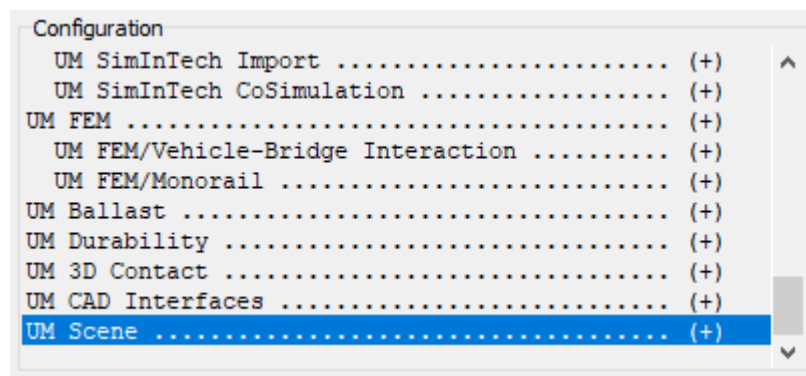

Figure 1.1. UM Scene in the UM configuration
- **Make sure that you have a license for UM Scene in your UM configuration.** Every module in UM software is licensed separately. To load scenes a UM user needs the **UM Scene** module to be available. To check if you have the **UM Scene** module run **UM Simulation** program then from the main menu select the **Help | About** item and make sure that you have '+' sign for **UM Scene**, see Figure 1.1. If you use a trial UM license, your UM configuration already includes **UM Scene**. If you are a registered user you can request for a free trial 3-month license via um@universalmechanism.com.